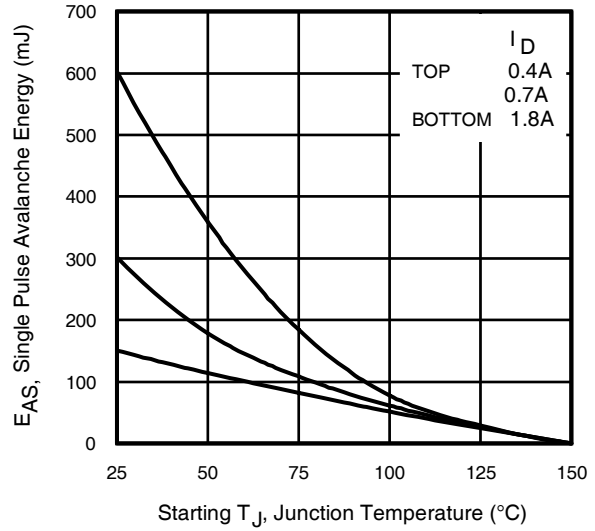

Fig 13. Maximum Avalanche Energy vs. Drain Current
- ② Starting $T_J = 25^\circ\text{C}$, $L = 93\text{mH}$, $R_G = 25\Omega$, $I_{AS} = 1.8A$. (See Figure 13).
- ③ $I_{SD} = 3.6A$, $di/dt \leq 520A/\mu\text{s}$, $V_{DD}V_{(BR)DSS}$, $T_J \leq 150^\circ\text{C}$.
④ Pulse width $\leq 300\mu\text{s}$; duty cycle $\leq 2\%$.
⑤ $C_{oss \text{ eff.}}$ is a fixed capacitance that gives the same charging time as C_{oss} while V_{DS} is rising from 0 to 80% V_{DSS} .